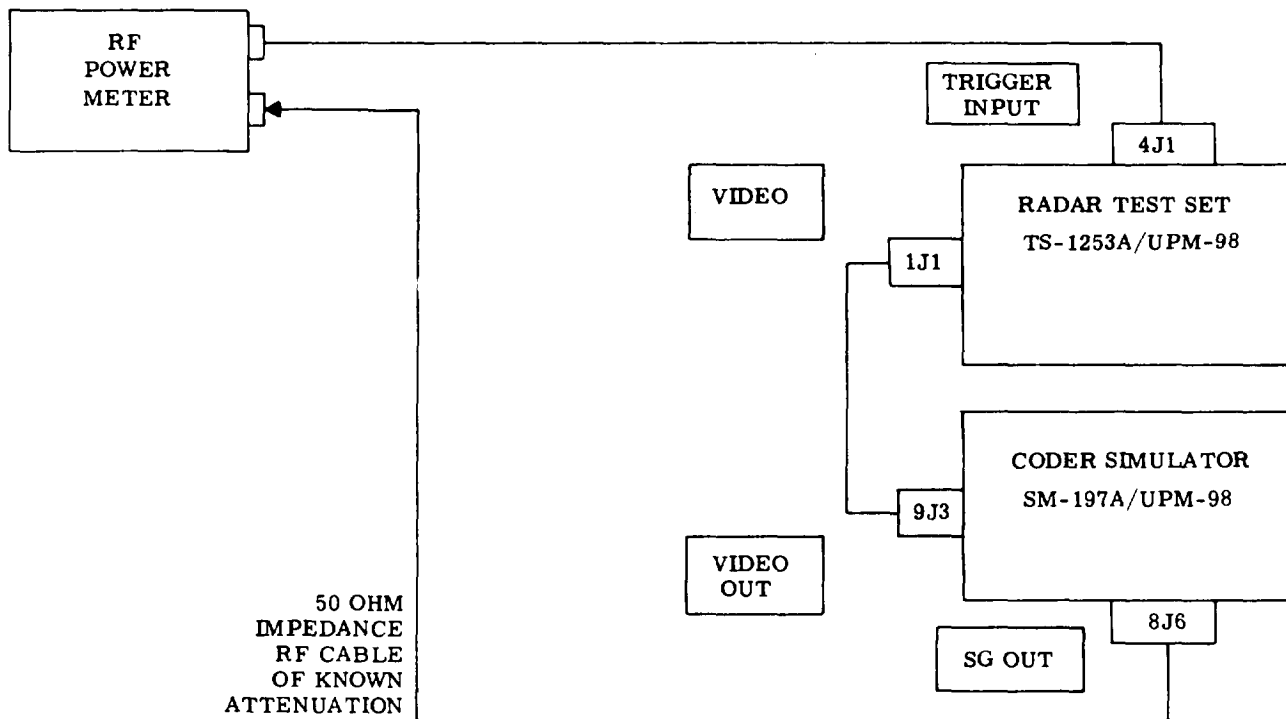

Figure 5-14. ALC/Attenuator 8A2, Calibration Test Setup
- Step 4. Connect test equipment as shown in figure 5-14. Set TS-1253A for external triggering. Tune SC FREQUENCY to approximately 1050 mHz and set ATTENUATION control so that RF Power Meter indicates a power output